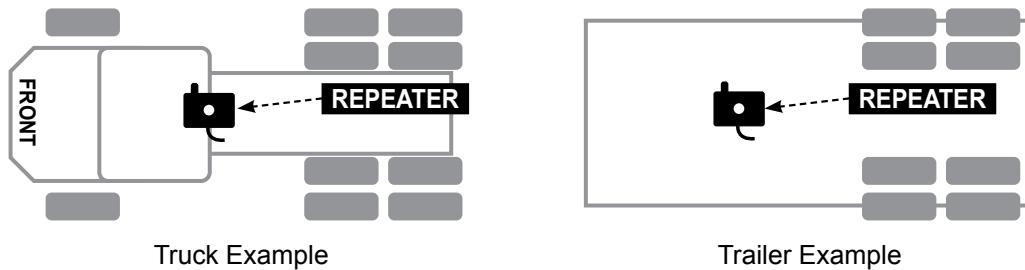

Figure 5: Recommended mounting locations for Repeater
1. The TireView repeater **MUST** be mounted on the tractor/truck or trailer in the recommended location. The unit is waterproof and can be mounted inside or outside. See *Figure 5*.